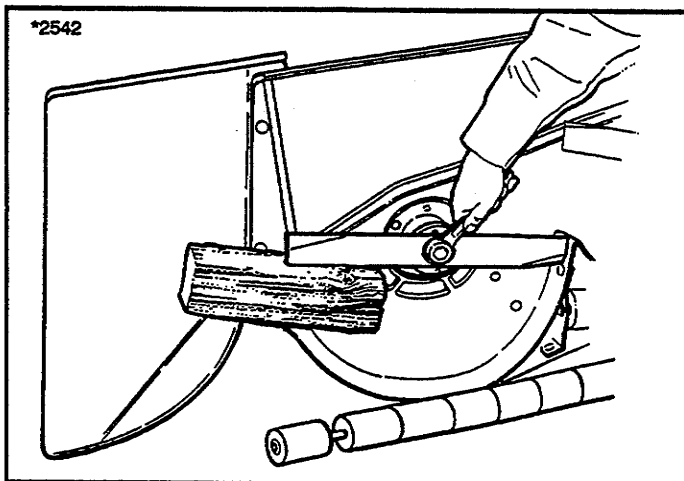

Figure 27. Removing The Blade
3. To remove blade for sharpening, use wooden block to hold blade while removing the blade mounting cap-screw (figure 27).